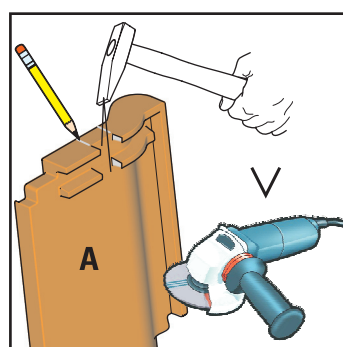

Fig. 3-13 Mark the transition points of the roof ties on the roof tiles and remove the tile webs
15. Knock out the lower tile webs at the marked transition points for the mounting brackets, or remove them with the tile cutter (Fig 3-13).